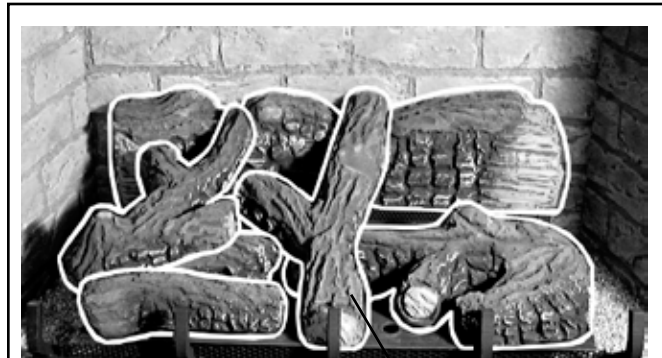

Figure 35
5. Place the Front Center Log in place as shown in **Figure 35**. The back of the log fits into the corresponding indent on Rear Log.